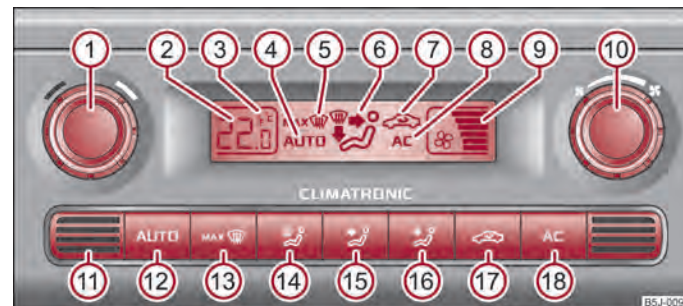

Fig. 80 Climatronic: Control elements
- Press the button  ⇒ fig. 80.
Press and hold the buttons  and  ⇒ fig. 80 at the same time. The information in the desired temperature measuring unit appears in the display.
- Press the button **MAX** ⇒ fig. 80.
- Turn the control dial ⑩ ⇒ fig. 80 to the left (reduce blower speed) or right (increase blower speed).
- Press the button   => fig. 80,  appears in the display.